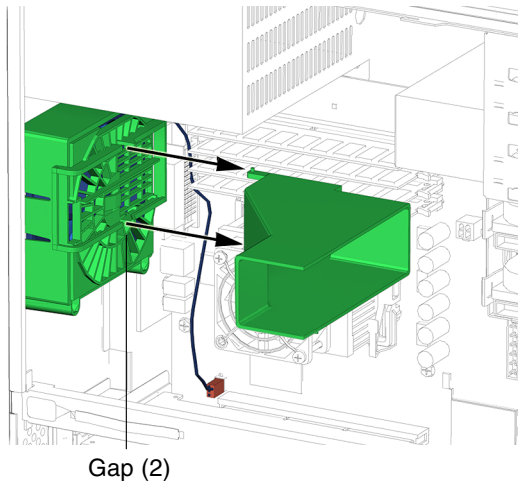

FIGURE 13-26 Pulling the Duct Free
7. When the pivot pins reach the gap in the rear fan's guide rails, the duct pulls free. See FIGURE 13-26. Set the duct aside.